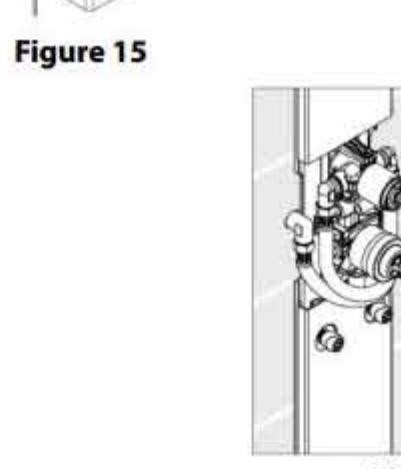

Figure 13
- Turn the water on at the main. Push the diverter stem up to turn the water on to the panel. (See Figure 13.)